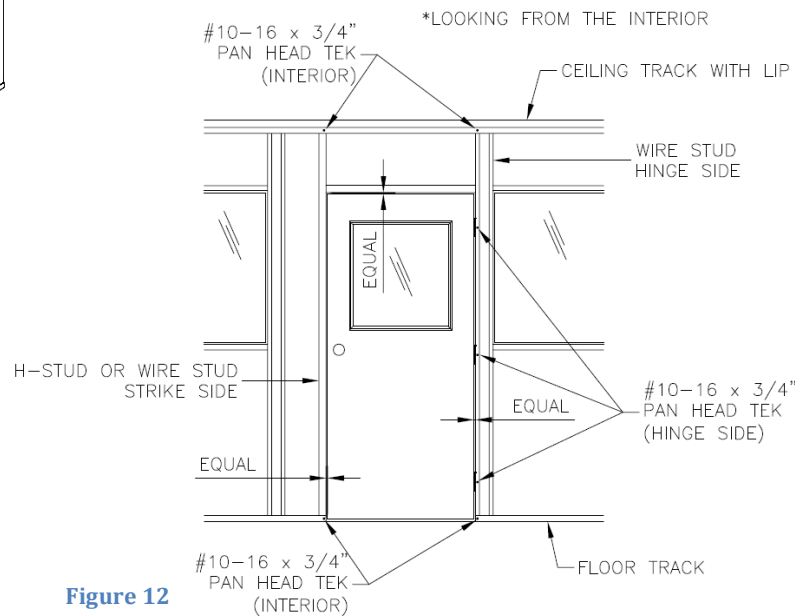

Figure 12
Step 2: Using the door as a guide, adjust the strike side jamb so there is an equal clearance between the door and the door frame on all sides and top, and the door operates freely. Once adjustments are made screw thru wire stud into jamb. Fasten the strike side and hinge side at the floor track, ceiling track, and behind each hinge. (See Figure 12)